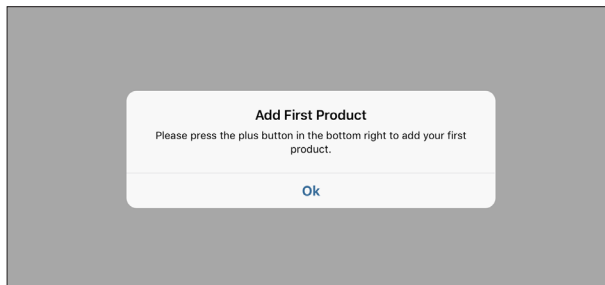

Figure 19 Add first product prompt
1. Select **Ok** to begin the process of adding the first new product (Figure 19).